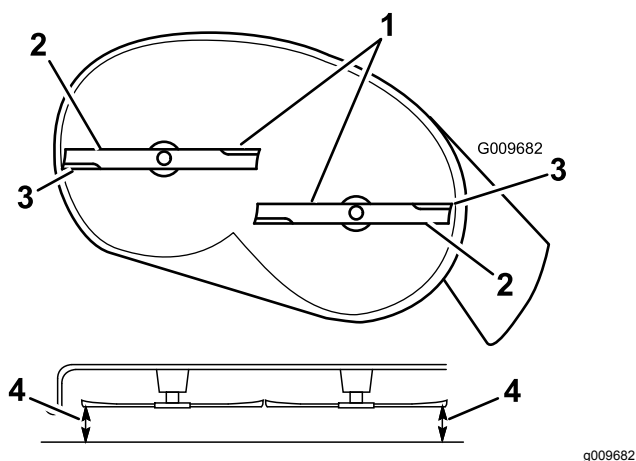
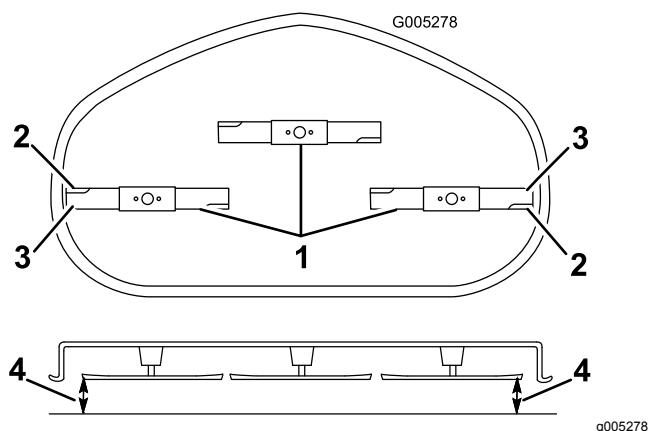

Figure 60
Figure 61
4. Carefully rotate the blades so that they are all side to side (Figure 60 and Figure 61).
5. Measure between the outside cutting edges and the flat surface (Figure 60 and Figure 61).